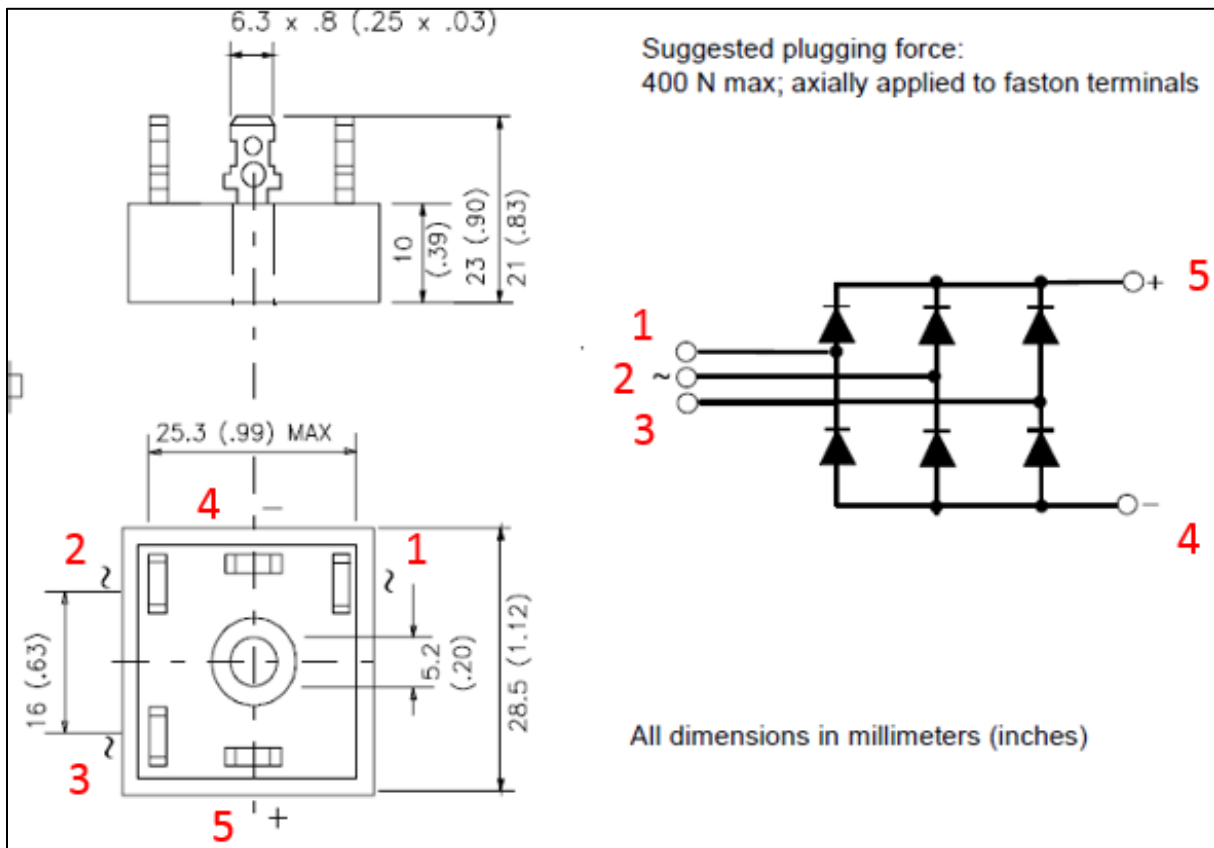

**Figure 4**
16. With the generator cover off, locate the bridge rectifier (Figure 4).